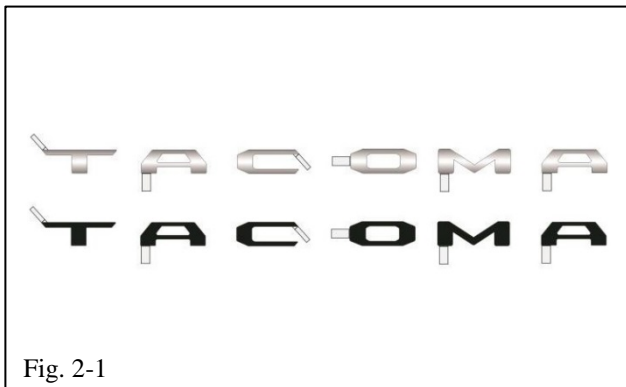

Fig. 2-1
- (a) Inspect the kit for contents and damage (Fig. 2-1).
(1) Bright Chrome: PT948-35180-00
(2) Flat Black: PT948-35181-02